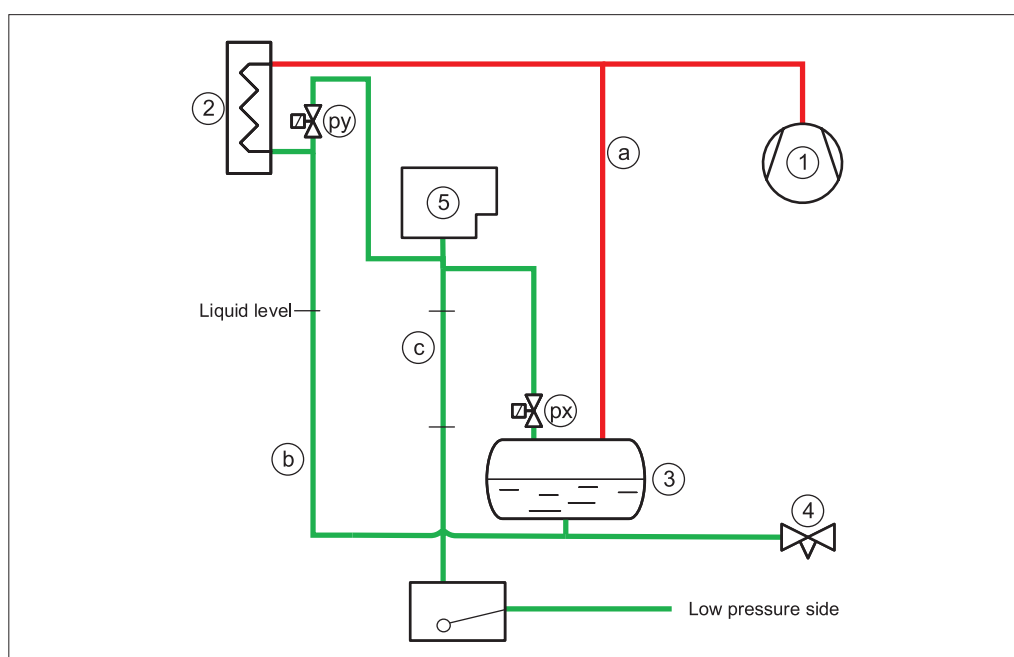

Fig. 7 Purger connections (px) & (py). Drain piping (c) must be vertical/downward slope
Alternatively, the air purger draining of liquid can be achieved effectively through an HP float valve (6) to the low pressure side (see Fig. 7).